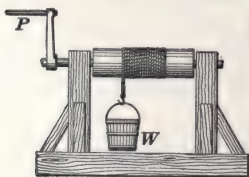

FIG. 10.
projection, radius, or anything that the force causes to revolve in a circle, may be considered as the wheel. Consequently, if it is desired to hoist a weight with a windlass, Fig. 10, the force is applied to the handle of the crank, and the distance between the center line of the crank-handle
**EXAMPLE.**—If the distance between the center line of the handle and the axis of the drum in Fig. 10 is 18 inches and the diameter of the drum is 6 inches, what force will be required at  $P$  to raise a load of 300 pounds?